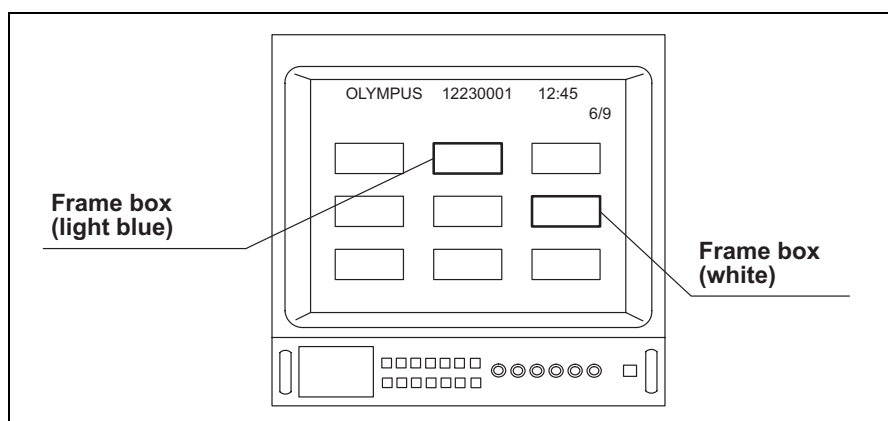

Figure 5.103
6. Depress the menu switches “◀” or “▶”, or the “↑/↓/←/→” key on the keyboard quickly to move the 2nd frame box (white) to the desired image (see Figure 5.103).